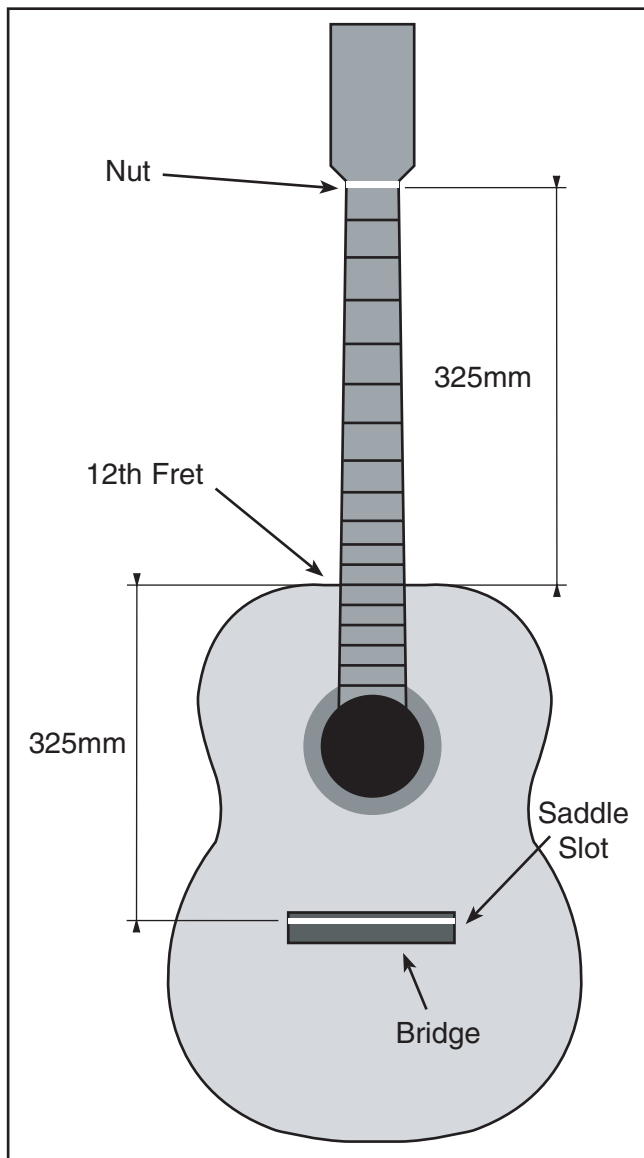

Figure 6. Saddle slot positioned correctly in relation to the 12th fret.
1. Position the center of the bridge saddle slot exactly 325mm away from the center of the 12th fret (**Figure 6**).
3. When placed against the end of the fingerboard, the edge of the nut should be exactly 325mm from the center of the 12th fret (**Figure 6**).